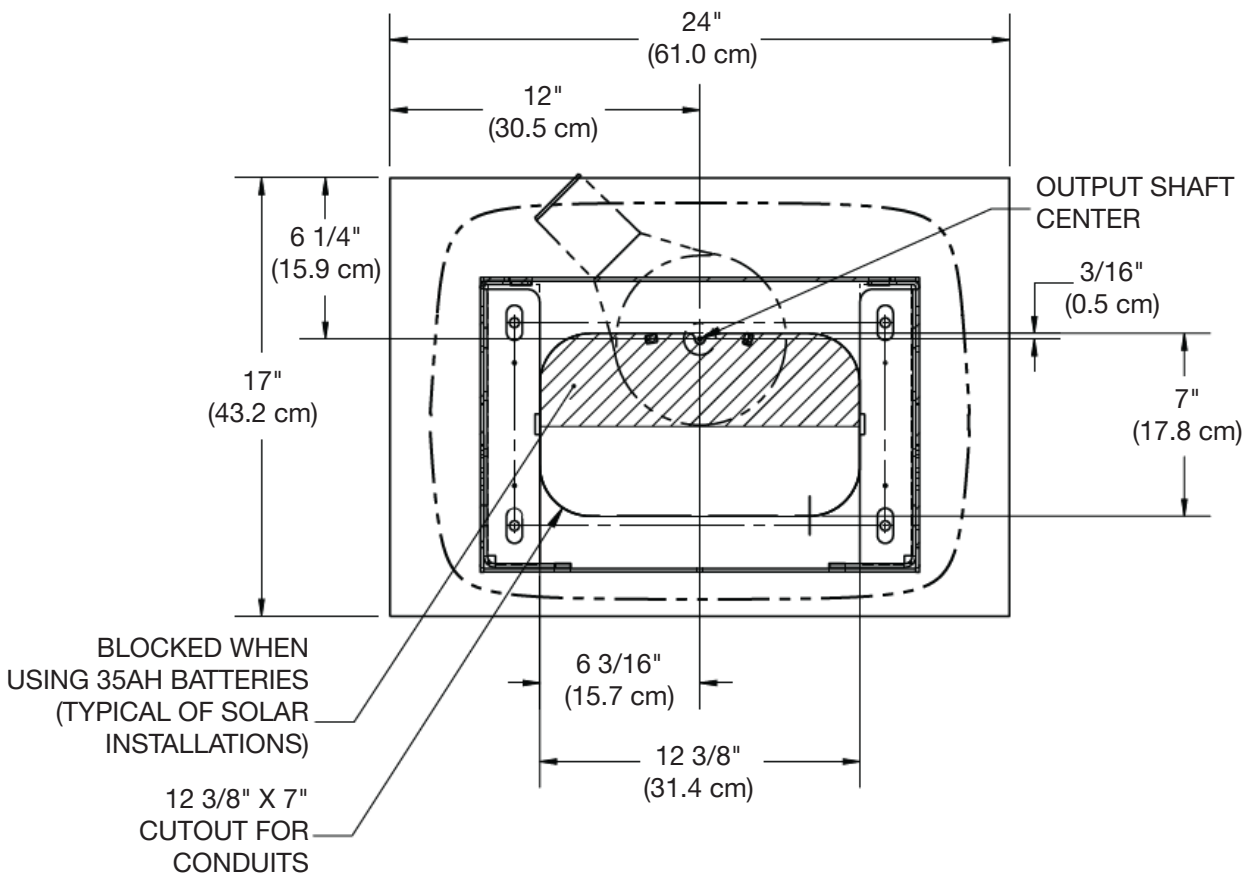

Figure 4. Concrete Pad and Conduit Area Dimensions
5. Refer to Figure 4 for minimum dimensions for a new concrete pad. Refer to Figure 6 for conduit and earth ground requirements.